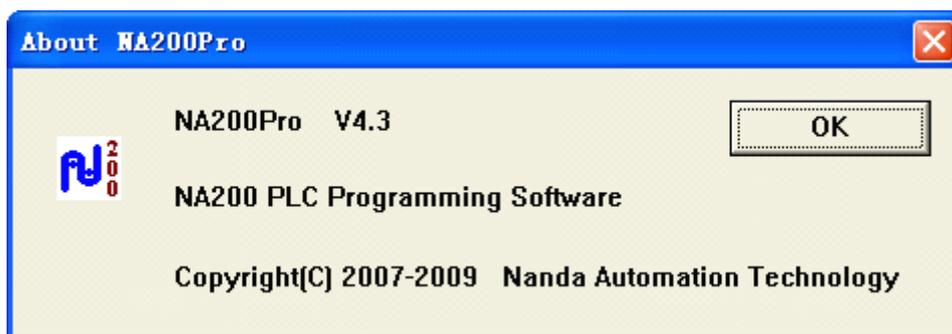

Fig.2.37 NA200Pro version information
**【About NA200Pro】** : Display the version and copyright of programming software. As shown in Fig.2.37: